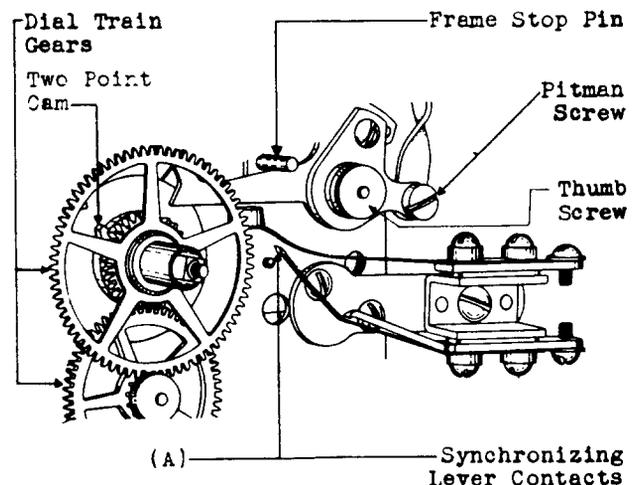
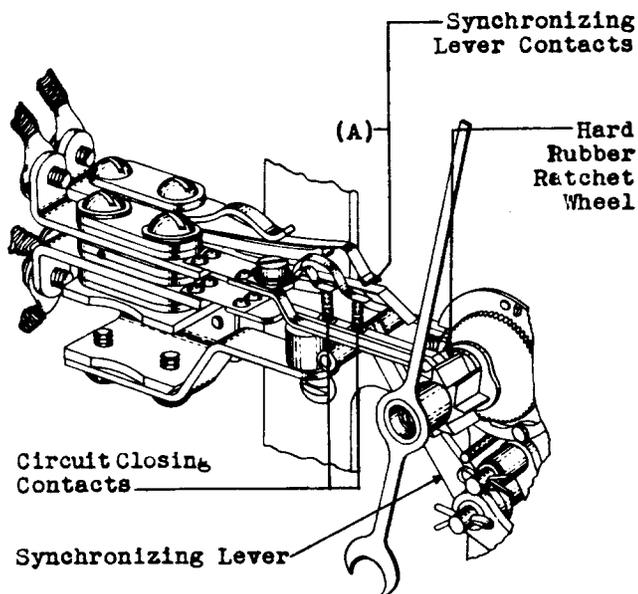

Fig. 7 - Synchronizing Lever Contacts
Fig. 8 - Synchronizing Lever Contacts
*2.25 Contact Separation - Fig. 7 (A) and Fig. 8 (A): With the contacts in the unoperated position the contact separation shall be Min. 1/64" Gauge by eye.
screw by hand and removing the pitman screw (See Fig. 7) with the 3-1/2" cabinet screw-driver. Then remove the cannon socket assembly.